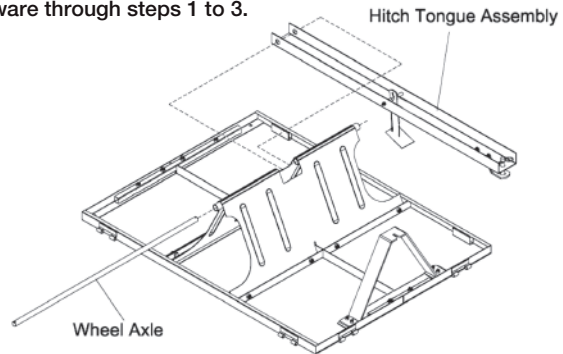

Fig. 4
STEP 4: Attach Wheel Axle (See Fig. 4)